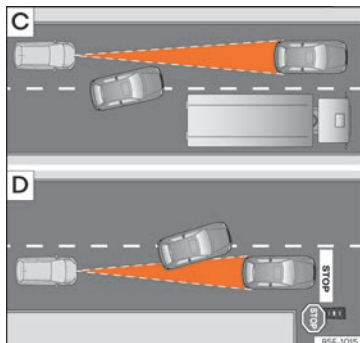

Fig. 240 [C] Vehicle changing lanes. [D] One vehicle turning and another stationary.
Vehicles changing lanes a short distance away from your own can only be detected when they are within range of the sensors. As a consequence, the ACC will take longer to react »» Fig. 240 ②. Brake yourself as necessary.
If a vehicle detected by the ACC turns or moves over and there is a stationary vehicle in front of it, the ACC will not react to it »» Fig. 240 ②. Brake yourself as necessary.